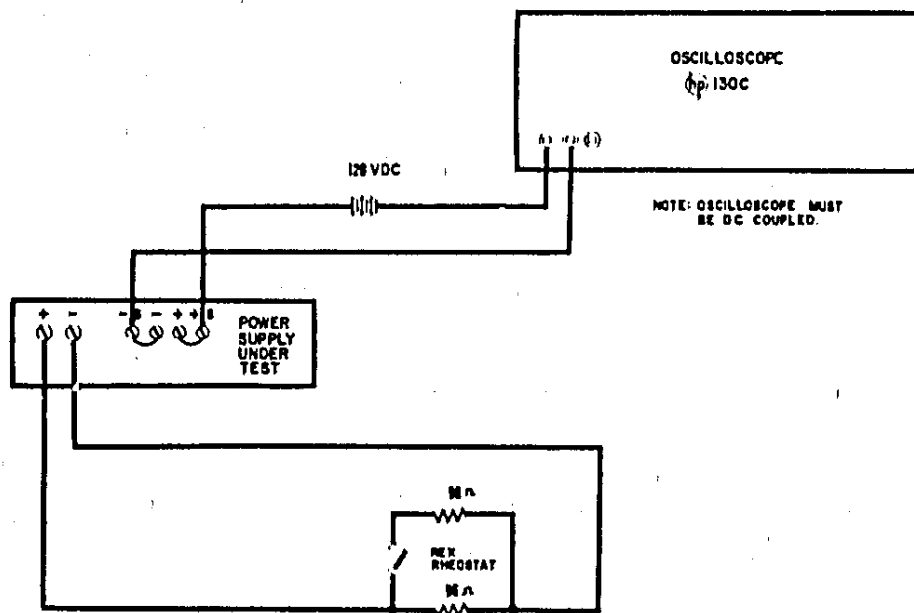

FIGURE 5-4. TRANSIENT RECOVERY TIME, TEST SETUP
- Connect test setup shown in figure 5-4.